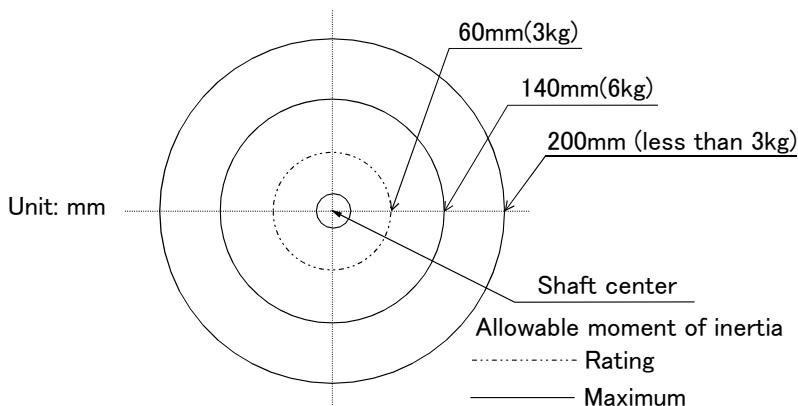
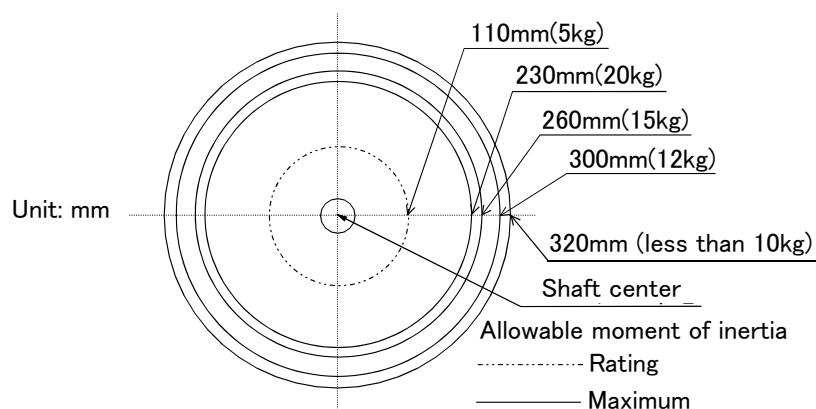

Fig.2-1 : Position of center of gravity for loads (for loads with comparatively small volume): RH-6FH series
Fig.2-3 : Position of center of gravity for loads (for loads with comparatively small volume): RH-20FH series
- (1) The tooling should have the value less or equal than the smaller of the allowable moment of inertia found in Page 12, "2.1.1 Basic specifications".
- (2) Fig. 2-1 to Fig. 2-3 shows the distribution dimensions for the center of gravity in the case where the volume of the load is relatively small. Use this figure as a reference when designing the tooling.
Please use the robot in the allowable moment of inertia of maximum moment of inertia shown in Fig. 2-1 to Fig. 2-3.